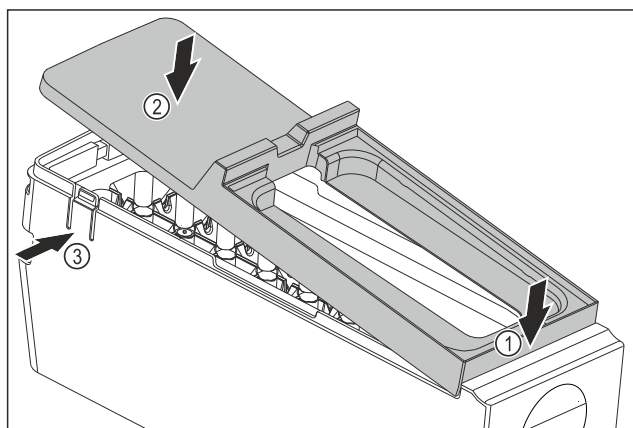

Fig. 91
- Installing the EasyTwist-Ice body cover: Place the cover on the front. Fig. 91 (1)
- Lower the cover at the rear. Fig. 91 (2)
- ▷ The cover locks into both tabs Fig. 91 (3) audibly.